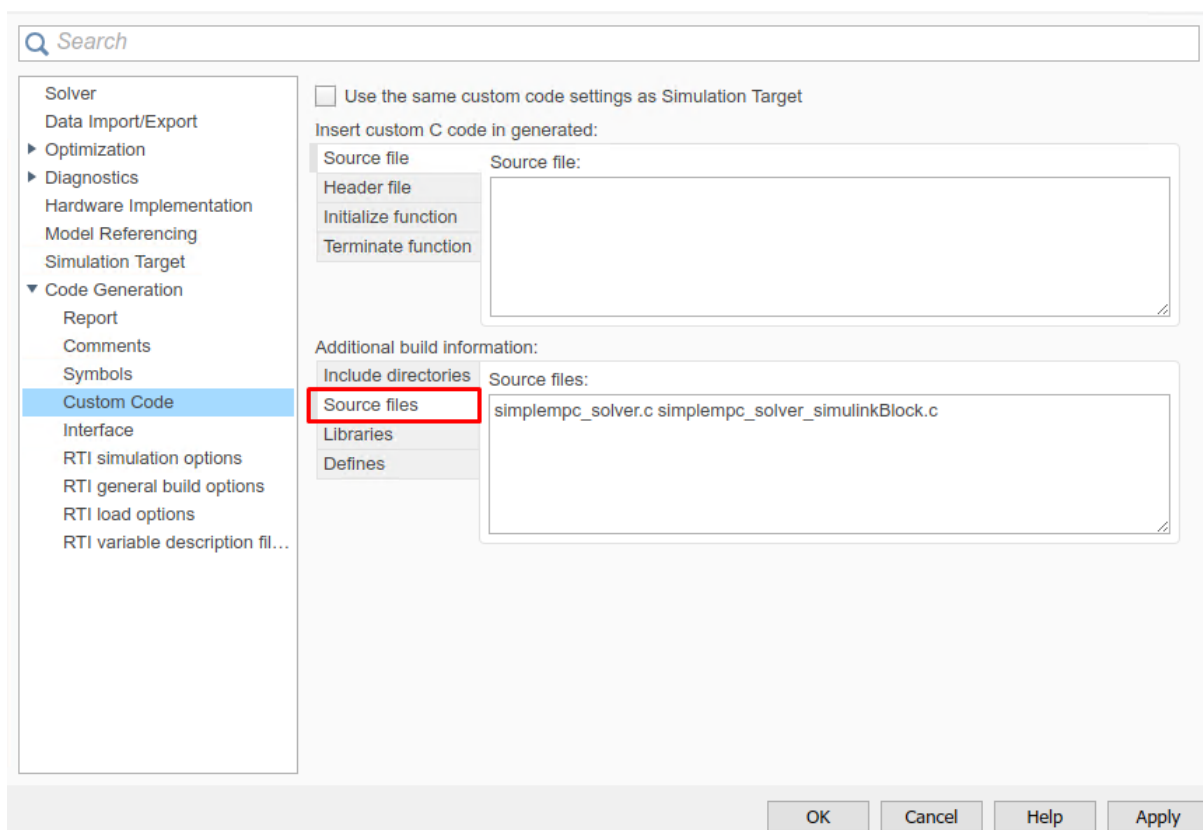

Figure 13.25: Add the source files used for the code generation.
10. (Figure 13.25) In the “Code Generation/Custom Code” tab, add the source files: